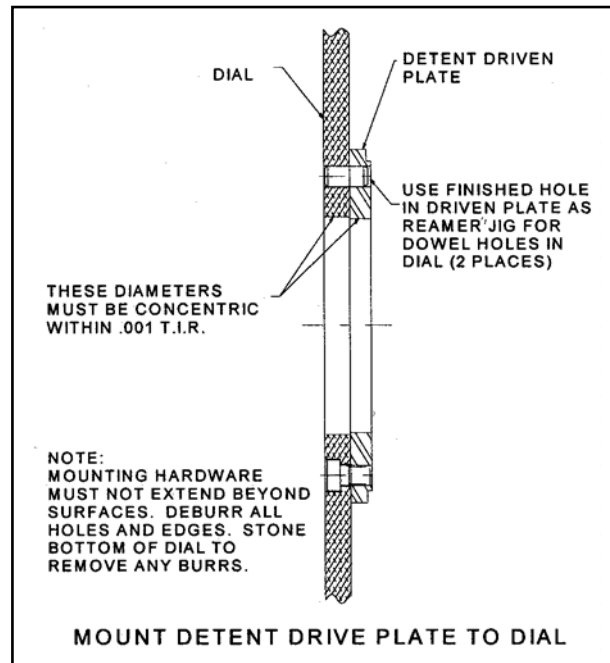

FIGURE 8
- 4.2.2.1. Mount the driven detent plate of the clutch to the dial and transfer the four 3/8 capscrew holes and two .375" diameter dowel holes. See Figure 8.